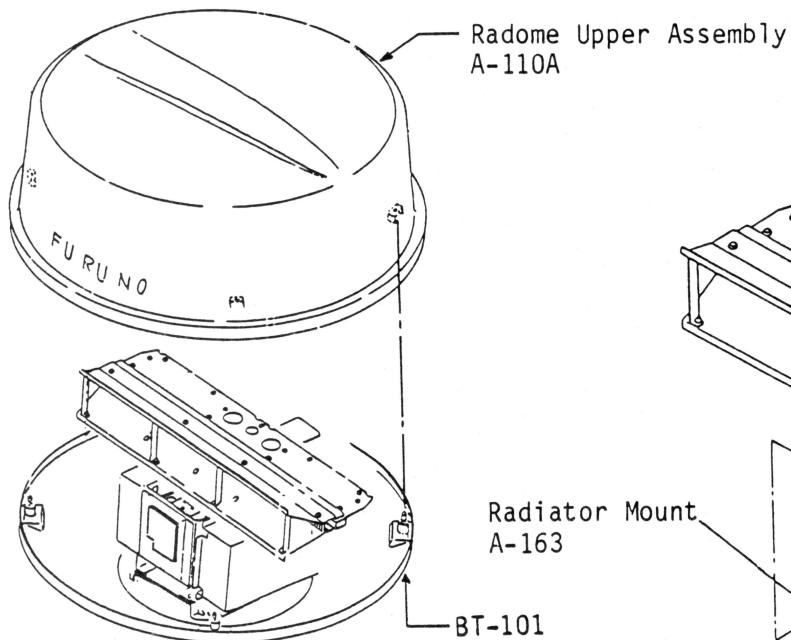

Fig.3-3
- 1) Loosen the four fixing bolts BT-101, and remove the radome upper assembly A-110A. See Fig.3-3.
- 1) Remove the radome upper assembly. See Fig.3-3.